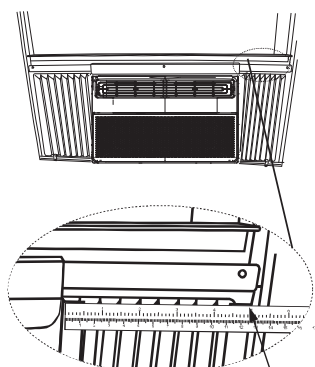

Fig. 20
Step 1. After the unit is installed to the window, measure the inner width of the side curtain as shown (Fig.20).